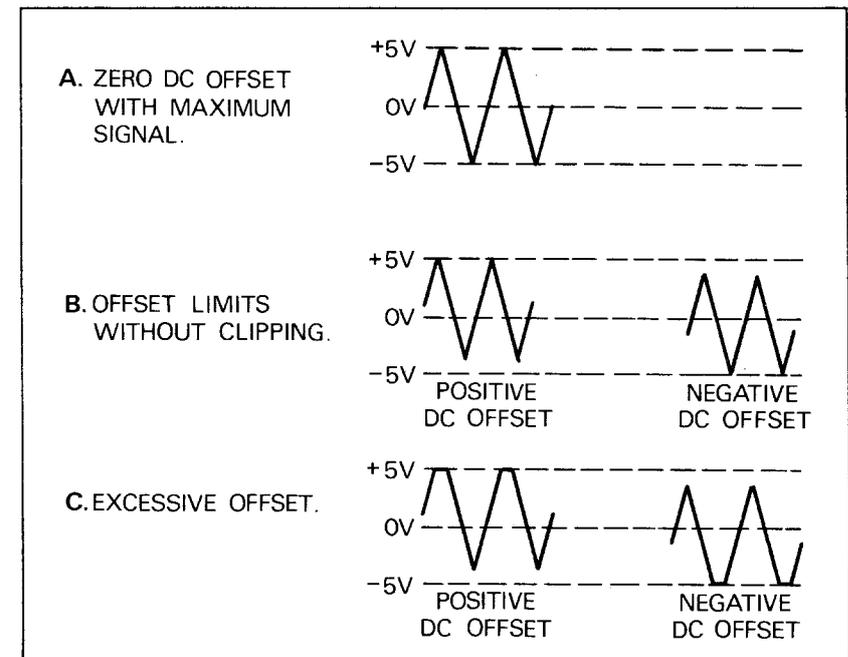

Fig. 4. Use of DC OFFSET control.
6. Remember that the output signal swing of the generator is limited to  $\pm 10$  volts (open circuit) or  $\pm 5$  volts into 600 ohms. This applies to the combined signal and DC offset. Clipping occurs slightly above these levels. Fig. 4 illustrates the various operating conditions encountered, when using the DC offset. If the desired output signal is large or if a large DC offset is used, an oscilloscope should be used to make sure that the desired combination is obtained without undesirable clipping.